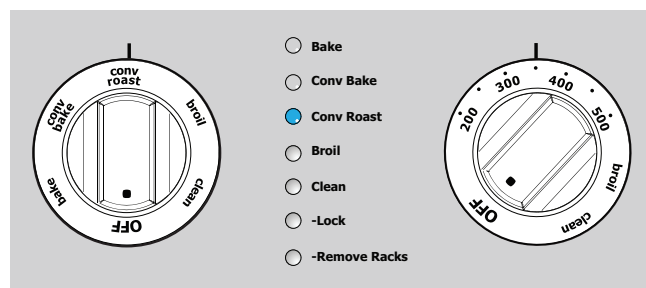

Figure 23: Convection roast selection
6. Close the door. Turn the function dial to **conv roast**. The Conv Roast indicator light will flash (Figure 23).